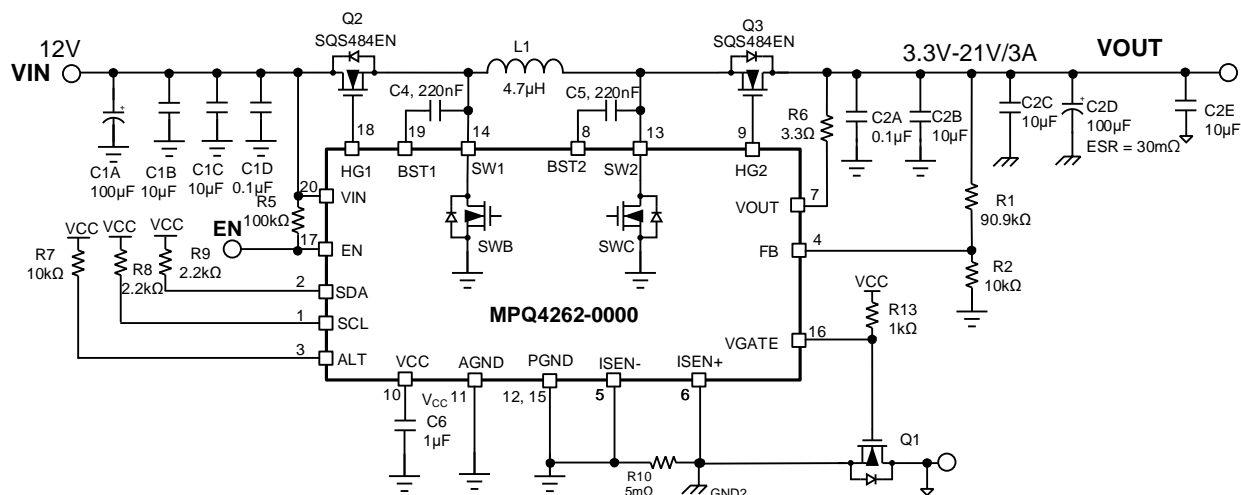

Figure 14:  $V_{IN} = 12V$ ,  $V_{OUT} = 3.3V$  to  $21V/3A$  (OPERATION Set to On) (9)
- 8) The recommended layout is based on the typical application circuit (see Figure 14 on page 38).